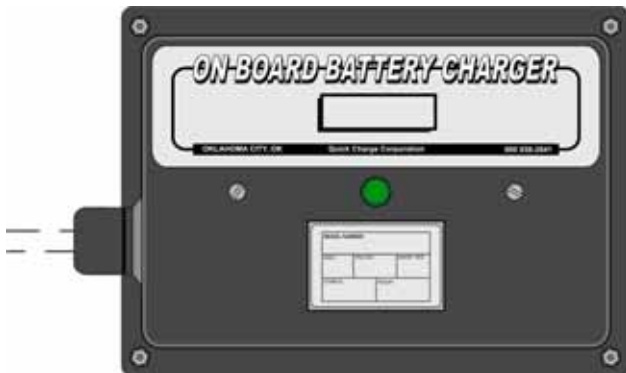

Figure 3-8. Battery Charger Faceplate
- ❑ Plug the extension cord into a grounded 120 VAC outlet. Verify that the green indicator LED is lit on the center of the battery charger faceplate (Figure 3-8).